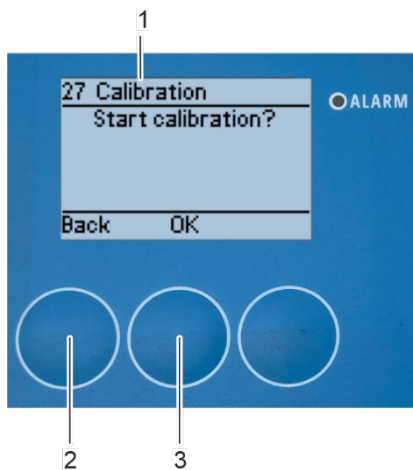

Fig. 139: Perform calibration
⇒ The “27 Calibration” submenu appears on the display (Fig. 139/1).
3. Confirm calibration start with *[OK]* (Fig. 139/3).
*To not carry out the calibration and exit the submenu, press **[Back]** (Fig. 139/2).*